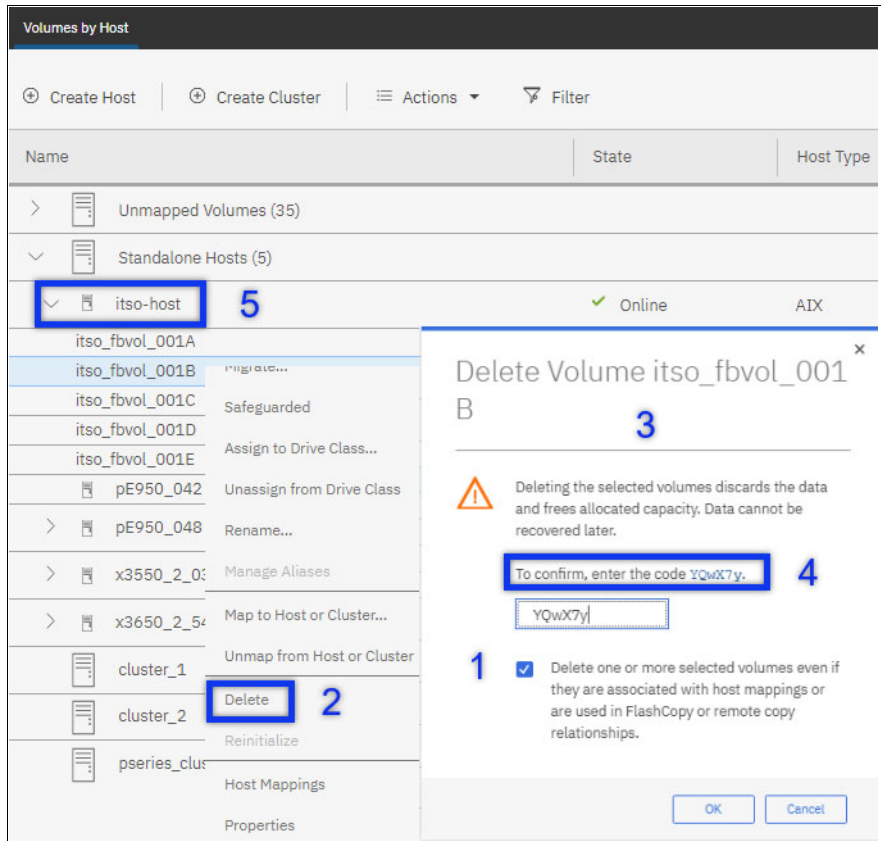

Figure 9-85 Deleting volumes
You can instruct the GUI to force the deletion of volumes that are in use by selecting the optional checkbox in the **Delete Volumes** dialog box, as shown by **1** in Figure 9-85 on page 287.
2. Select the volume to be deleted, and then select **Actions** → **Delete**, as shown by **2** in Figure 9-85 on page 287.